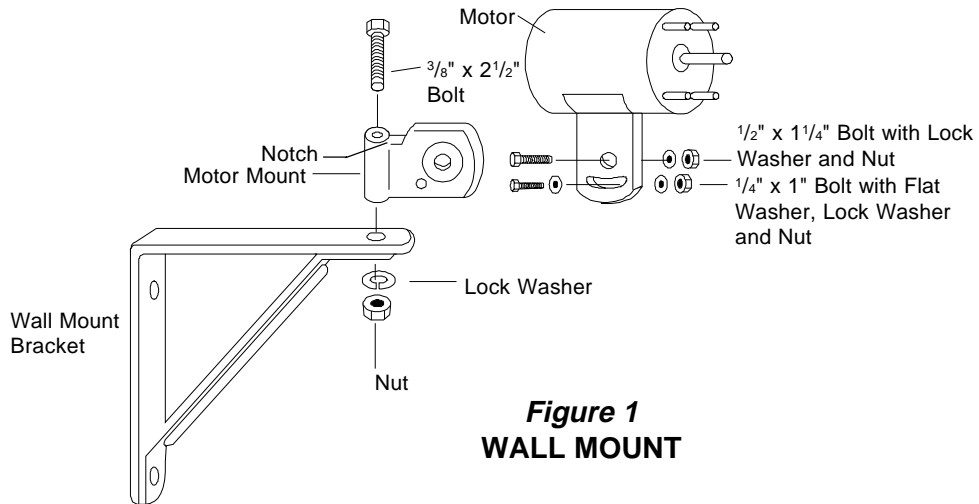

Figure 1
- 1) With "notch" in motor mount facing upward, attach motor mount to wall bracket using (1) $\frac{3}{8}$ " x $2\frac{1}{2}$ " bolt through "hinge" in motor mount and secure with $\frac{3}{8}$ " lock washer and nut. Do not fully tighten at this time. *See Figure 1.*
- 2) Then attach motor assembly to motor mount using (1) $\frac{1}{2}$ " x $1\frac{1}{4}$ " bolt, lock washer, and nut and (1) $\frac{1}{4}$ " x 1" bolt with flat washer, lock washer and nut. *See Figure 1.* Position fan with wall bracket to desired location and secure to wall with lag screws or bolts (not provided). Set fan to desired angle and tighten all bolts.